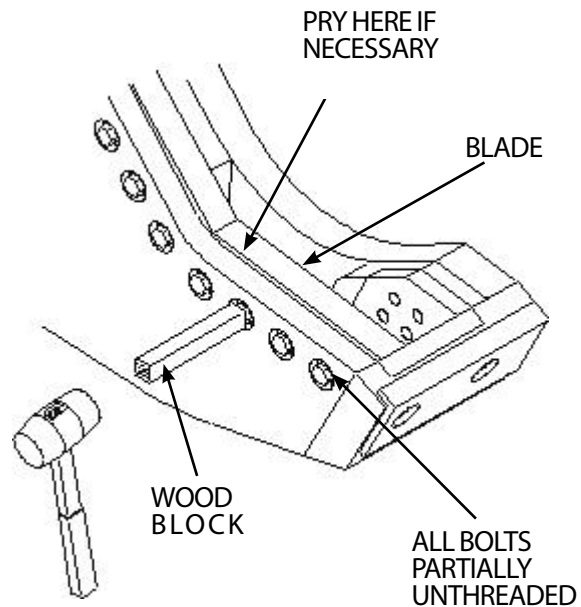

FIGURE 5-6
4. If the blade is still jammed in its seat, place a wood block or similar object against the head of one of the blade bolts and strike with a mallet (see Figure 5-6). The bolt being struck should be within 1/2" (13 mm) of being fully threaded into the blade to prevent thread damage.